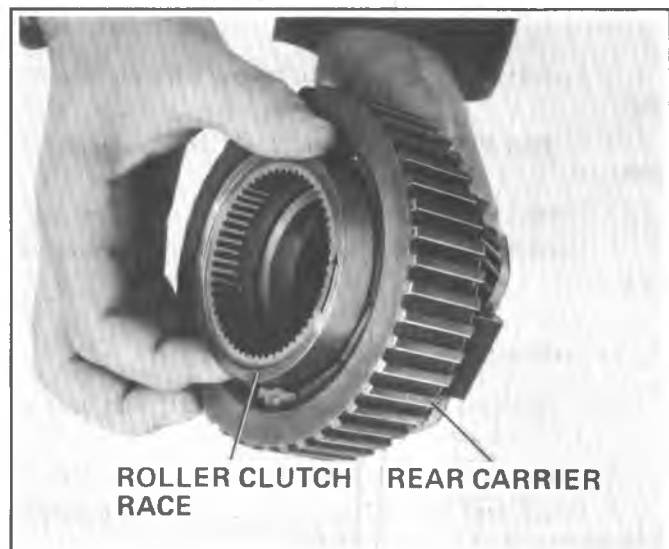

Figure 7A6-96 Installing Roller Clutch Race
5. Install 4 tanged rear carrier to rear internal gear thrust washer. Align tangs into slots of rear carrier and retain with petrolatum (Figure 7A6-97).